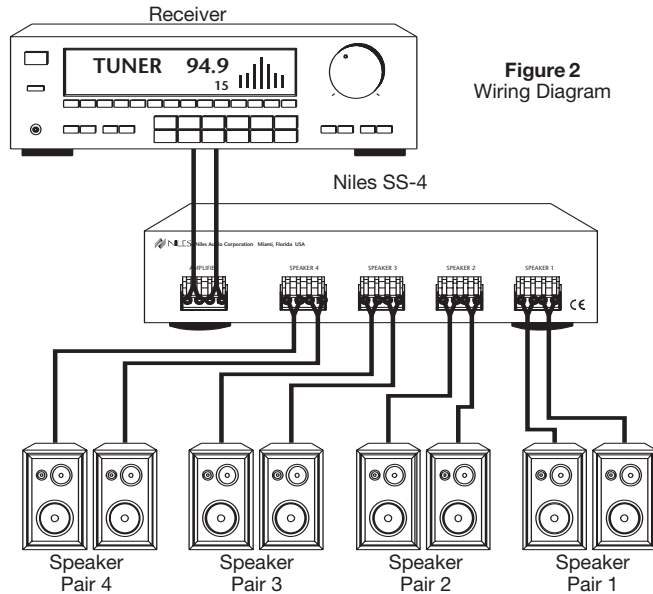

Figure 2
2. Run all the necessary wiring to the SS-4/SS-6. Label the wires for future reference. See (Figure 2).
3. Locate the connector plugs (and remove them if they are plugged in). See (Figure 2).